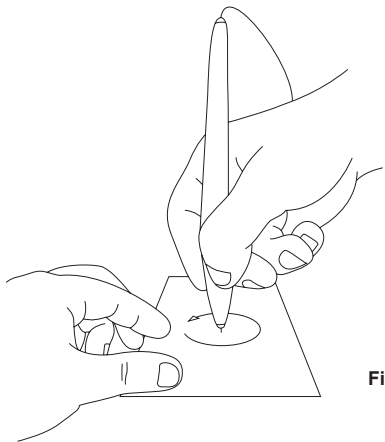

Fig. 1.7
- b. Hold the probe pen with pen tip forming the right angle (90 degree) with any paper or stone tray (as provide). Gently move in a circular motion without retracting the tip. **(Fig. 1.7)**